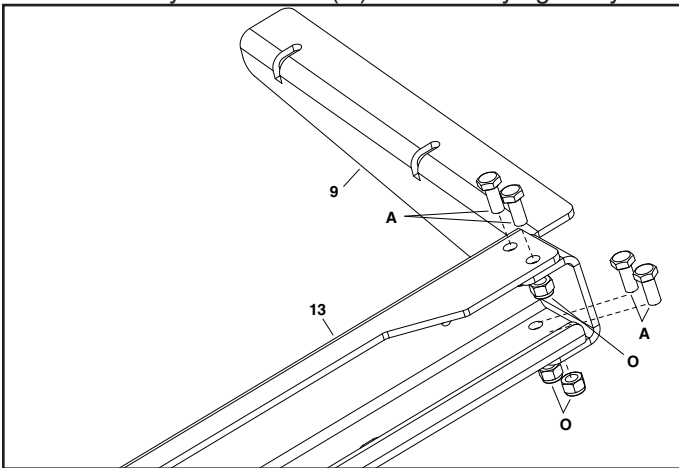

FIGURE 4
STEP 4: (SEE FIGURE 4)
- Attach the right hopper mount bracket (9) to the hopper mount bracket (13) using four hex bolts (A) and four nylock hex nut (O). Do not fully tighten yet.